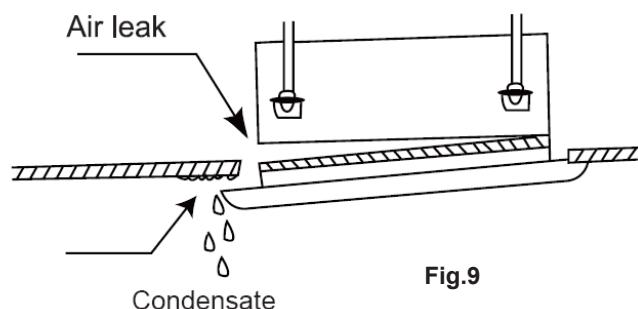

Fig.9
(7) Improper screwing of the screws may cause the troubles shown in Fig.9.